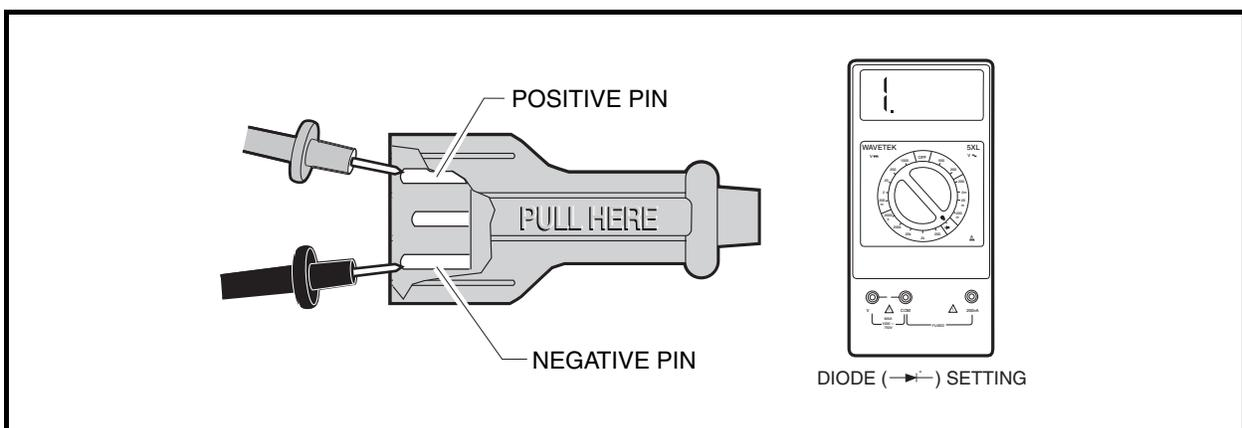

Figure 5-14 DC Plug Test
2. Using a multimeter set to the diode test function ($\rightarrow|$), place the positive (+) probe of the multimeter on the pin marked positive (+) on the DC plug (**Figure 5-14, Page 5-17**). Place the negative probe (-) on the pin marked negative (-). The multimeter should indicate an overload (no continuity).